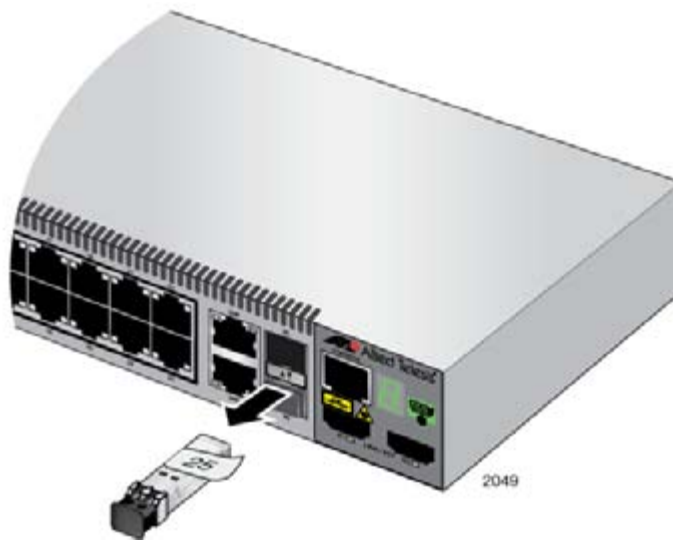

Figure 55. Removing the SFP Module
5. Remove and label the module from the switch, as shown in Figure 55.